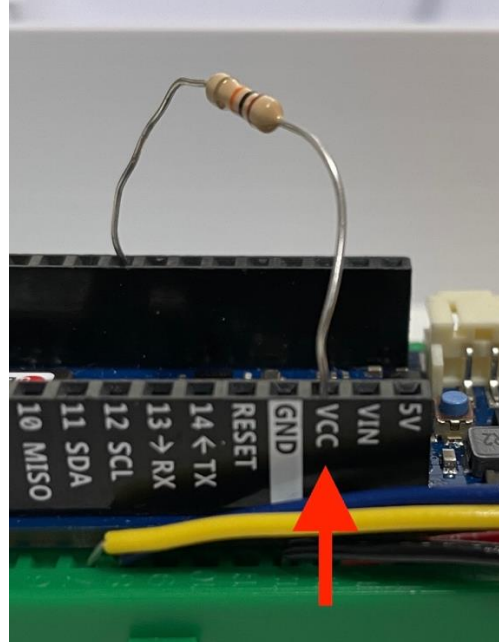

Figure 37: Connect one leg of the resistor to VCC pin.
5. Connect one leg of the resistor to VCC pin on the Arduino as shown in Figure 37.